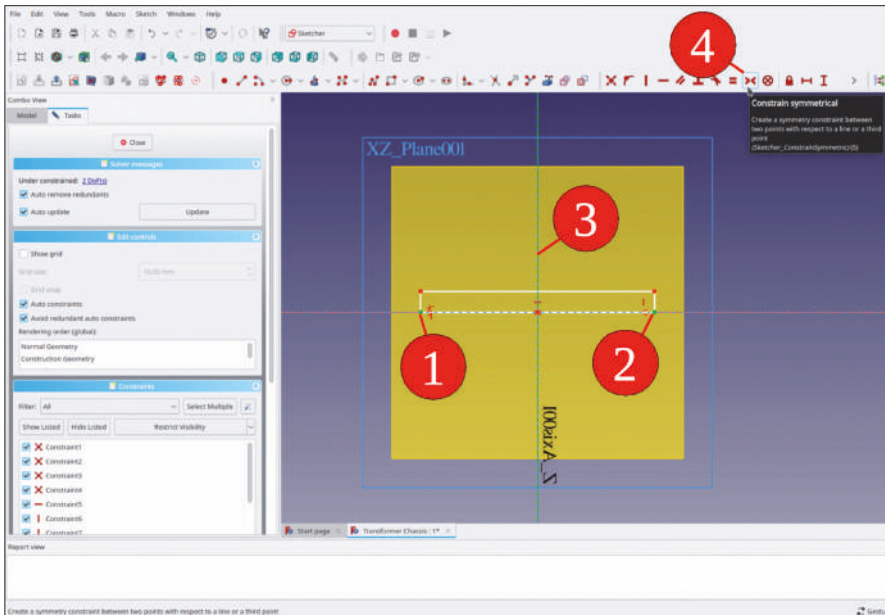

Figure 9-51
10. Mark the lower two corners of the rectangle, and then the Z (= vertical) axis. Click on the 'Constrain symmetrical' tool button (Figure 9-51).